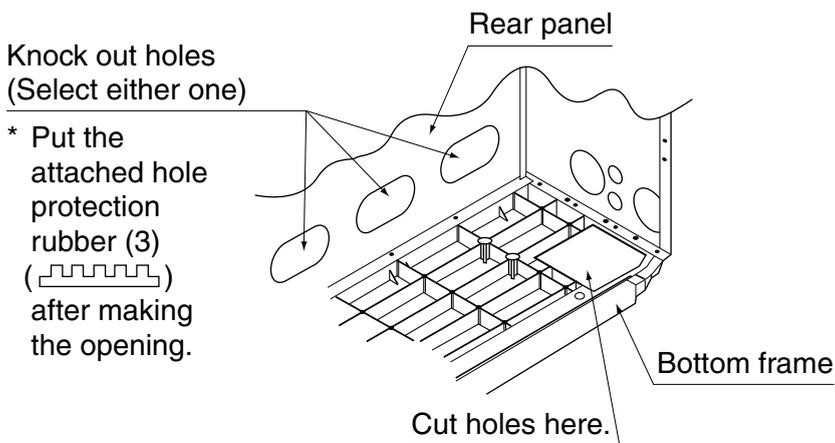

Fig. 14
- Open the knock out holes on the rear panel. (Refer to Fig. 14)
- Cut holes in the indicated area of the bottom frame. (Refer to Fig. 14)